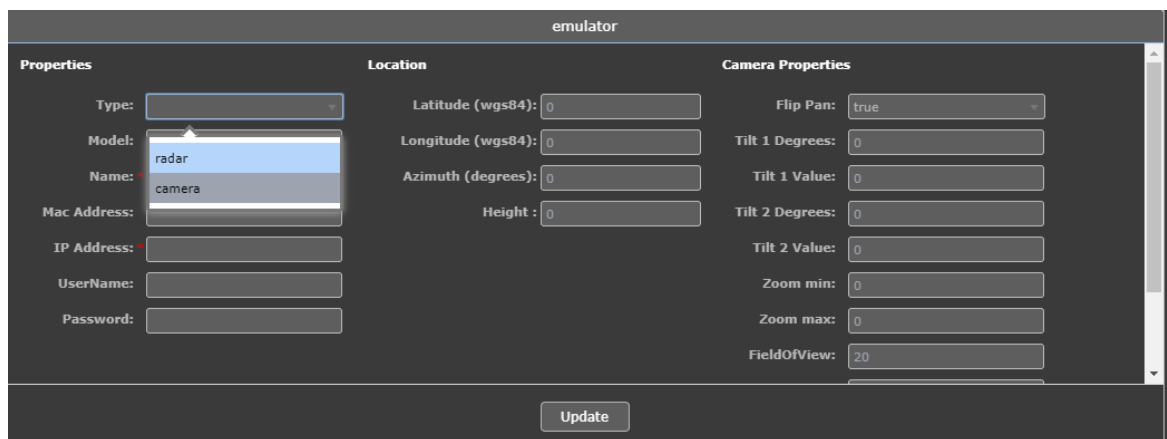

Figure 16: Selecting a sensor type
- Manually add sensors – Select the sensor type (see Figure 16: Selecting a sensor type)